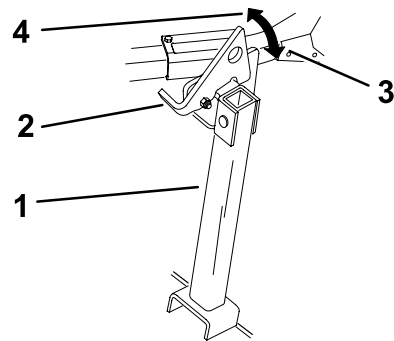

Figure 9
6. Drive onto the stand. Stop when latch drops over tab into the locked position (Figure 9). Once onto the stand, engage the parking brake. Shut off the engine.
1. Raise the latch to the unlocked position (Figure 9).